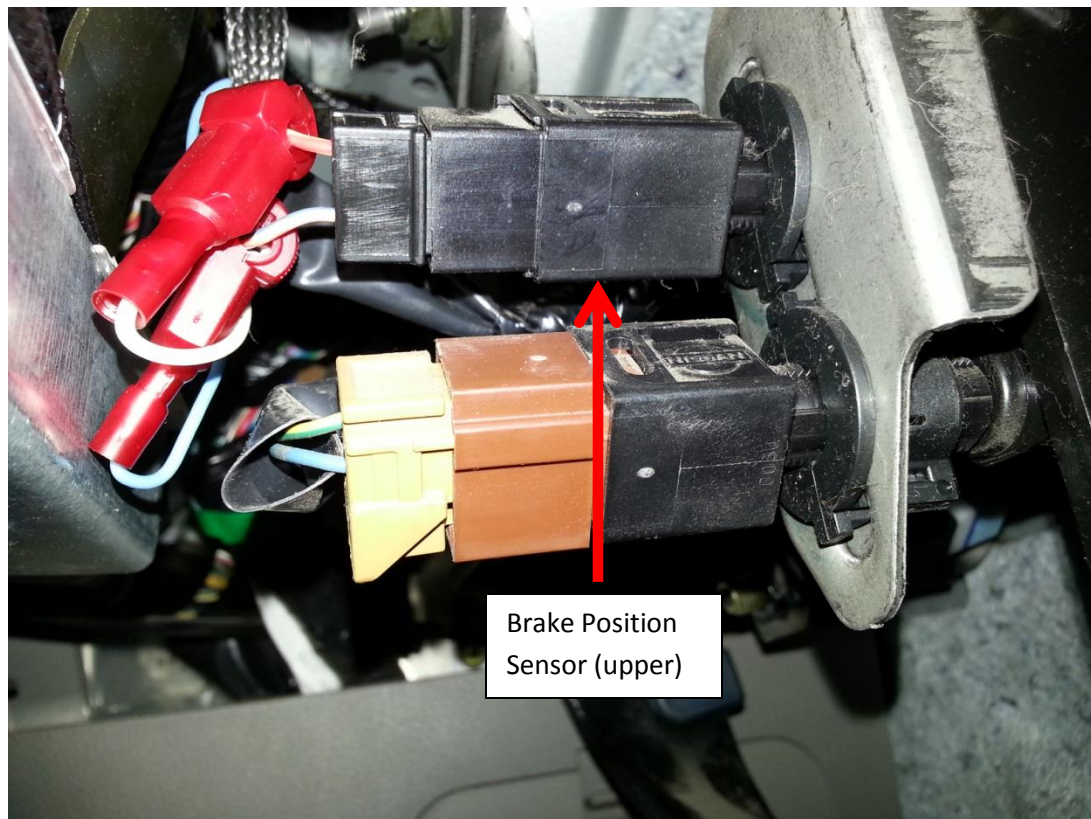

Figure 3 (Brake Sensor)
3. Locate Brake Position Sensor (**Figure 3**)